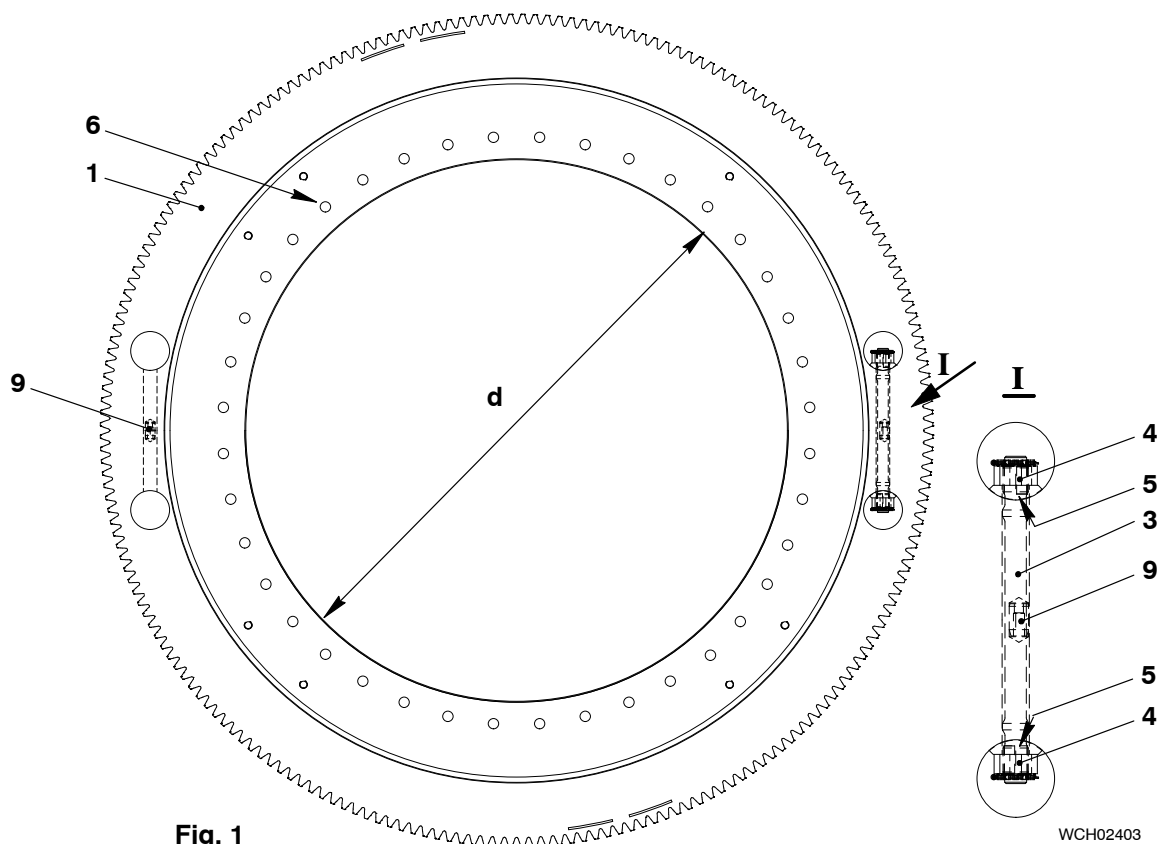

Fig. 1
- 2) Measure and record the inner diameter (d, Fig. 1) of the two-part gear wheel (1).